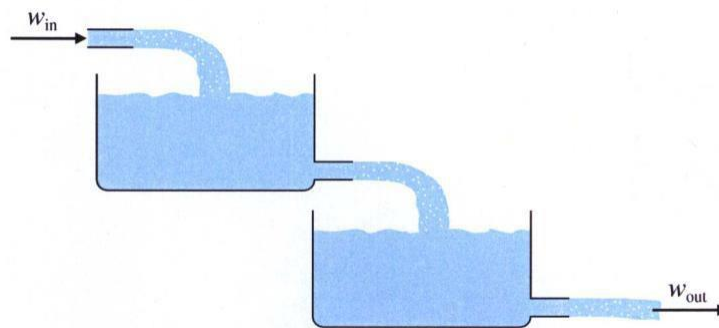

Fig. 2.59 Two-tank fluid-flow system for Problem 25
25. For the two-tank fluid-flow system shown in Fig. 2.59, ...nd the differential equations relating the flow into the ...rst tank to the flow out of the second tank.